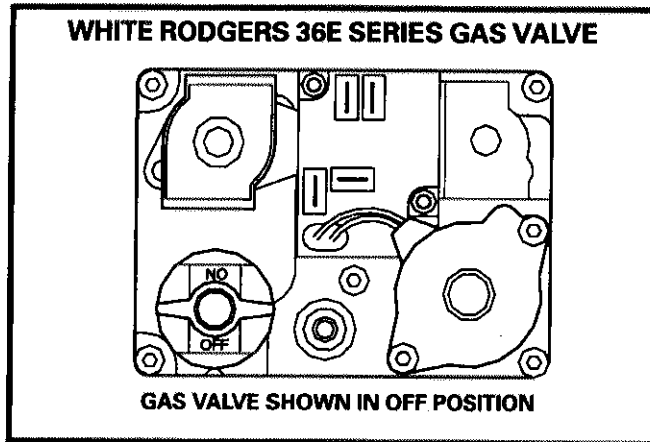

FIGURE 2
#### Gas Valve Operation (Figure 2)
- 6 – Turn knob on gas valve 180° either way to **OFF**. See figure 2. Do not force.
- 7 – Wait five (5) minutes to clear out any gas. If you then smell gas, **STOP!** Immediately call your gas supplier from a neighbor's phone. Follow the gas supplier's instructions. If you do not smell gas go to next step.